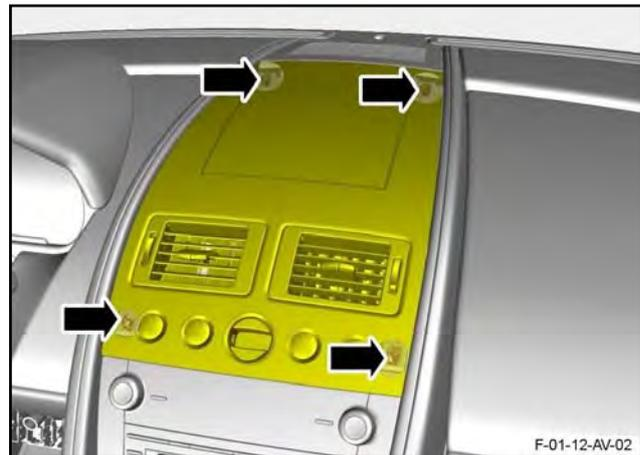

Figure 26
35. Release the veneer bezel from the four clips that attach it to the IP (refer to Figure 26).